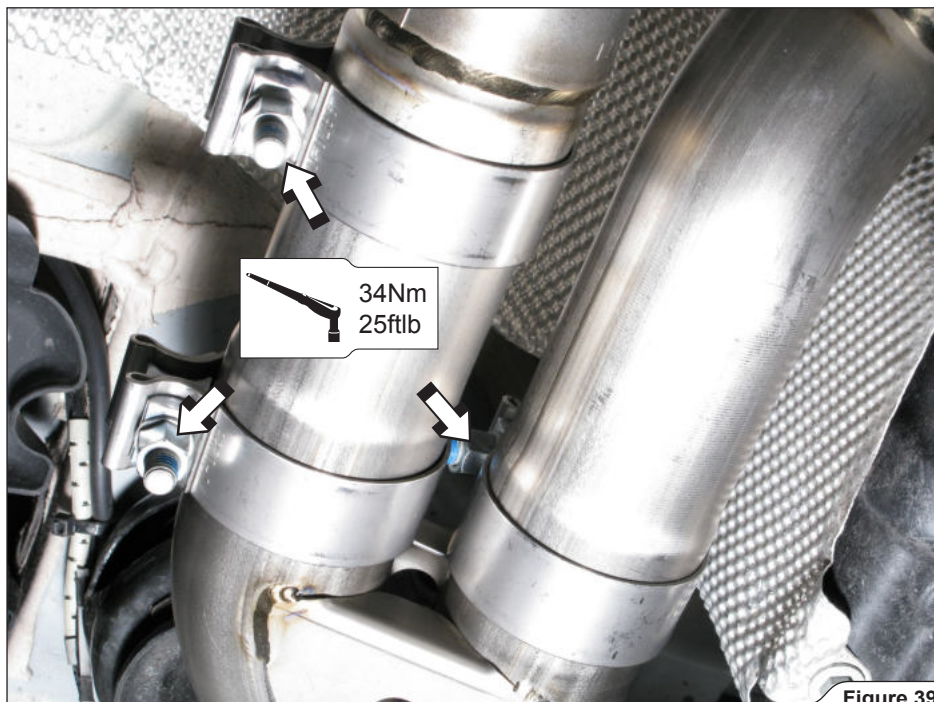

Figure 39
19. **For Slip-On:** align the muffler in respect to the rear bumper's tail pipe outlets and tighten the clamps to the specified torque (**Figure 39**).